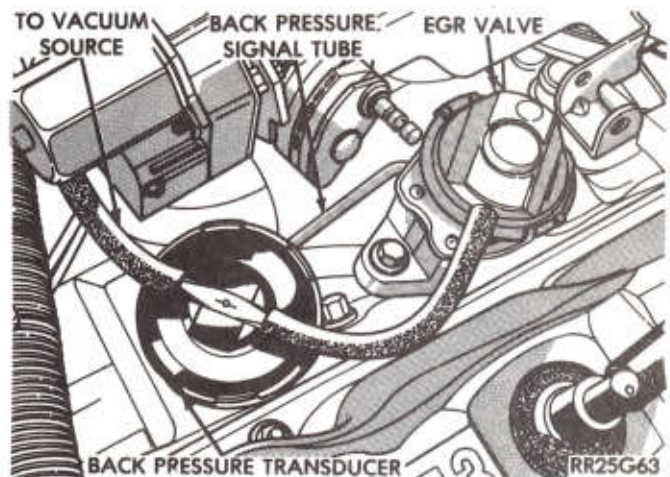

Fig. 18—Backpressure Transducer
(28) Verify that hoses are attached to back pressure transducer (Fig. 18).